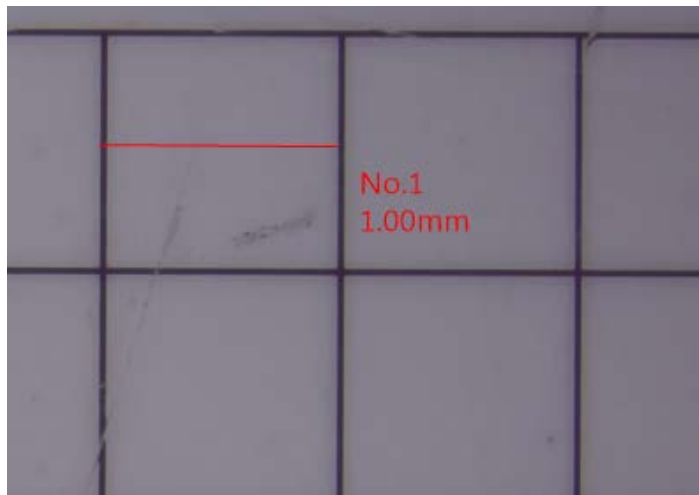

Fig. 5-5 Line Measurement
- (1) Line : To simply measure a line who can apply  tool. User can choose Line tool and measure length as L=1.00mm (L: Length). See Fig. 5-5 shown.